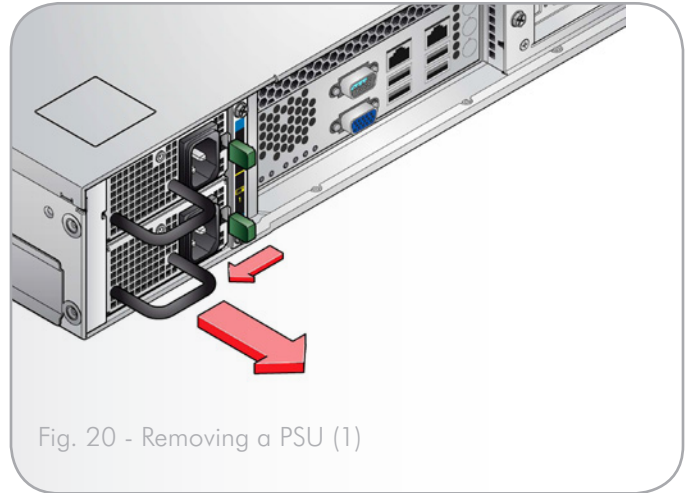

Fig. 20 - Removing a PSU (1)
3. Squeeze the locking tab to the left (Fig. 20).